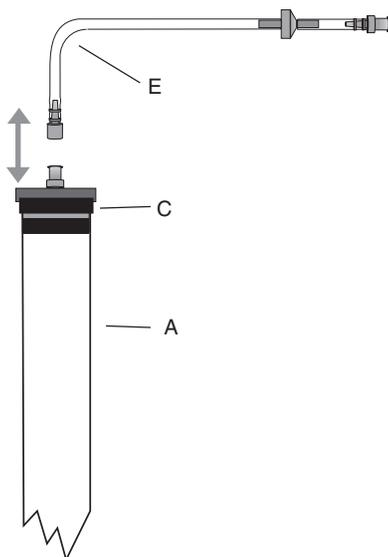

Figure 6
7. Disconnect piece E from end piece C (Figure 6) to release the vacuum and repeat Step 6.